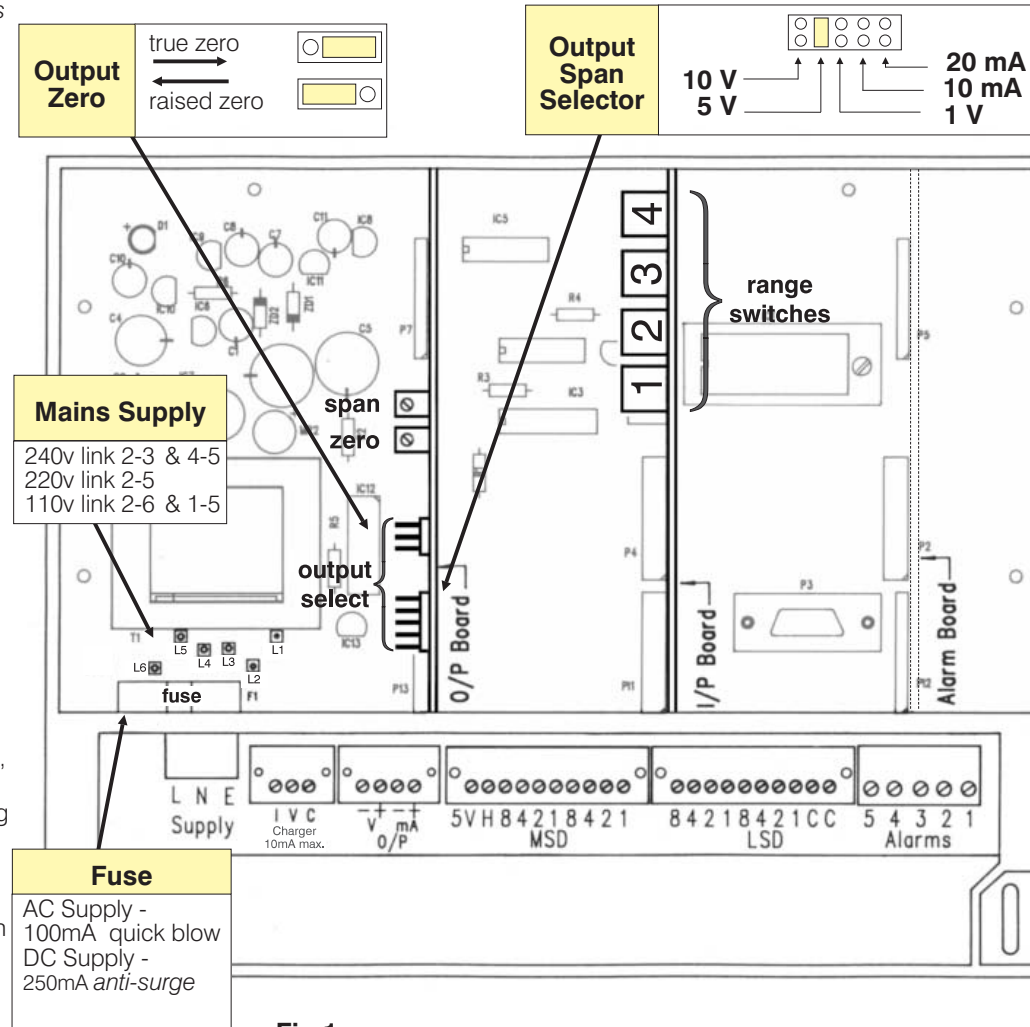

Fig 1
The input range for full scale output is set by four switches (SW1 - 4; see Fig 1.). The maximum range is 9999. Switch SW4 corresponds to the least significant decade (LSD) and switch SW1 the most significant decade (MSD). These switches may be set as required by the user. No other adjustment is normally required.
The Output Signal Span may be set to either 10mA, 20mA, 1V, 5V or 10V and the Output Zero to raised zero or true zero. These combinations will generate the following outputs:- 0-10mA, 0-20mA, 2-10mA, 4-20mA, 0-1V, 0-5V, 0-10V, 0.2-1V, 1-5V and 2-10V. These outputs are selected by the positioning of programming links on the Output Board. See Fig 1 for the link positions.
3. Set the links on the output board as required (see Fig1)
3. Remove six motherboard securing screws and withdraw the unit from the plastic enclosure. The unit can be adapted for 110v, 220v or 240v mains operation. Fig 1 provides details of the link settings which are effected by soldered tinned copper wire links. **IMPORTANT** - links for 110v operation must be insulated with silicon rubber sleeving.